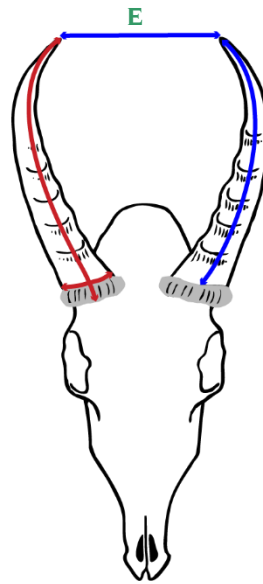

Figure 12 Reedbuck
3. Tip to Tip. Measure the tip-to-tip value in a straight line from the center of the left horn tip to the center of the right horn tip. This is a required measurement. Figure 12.